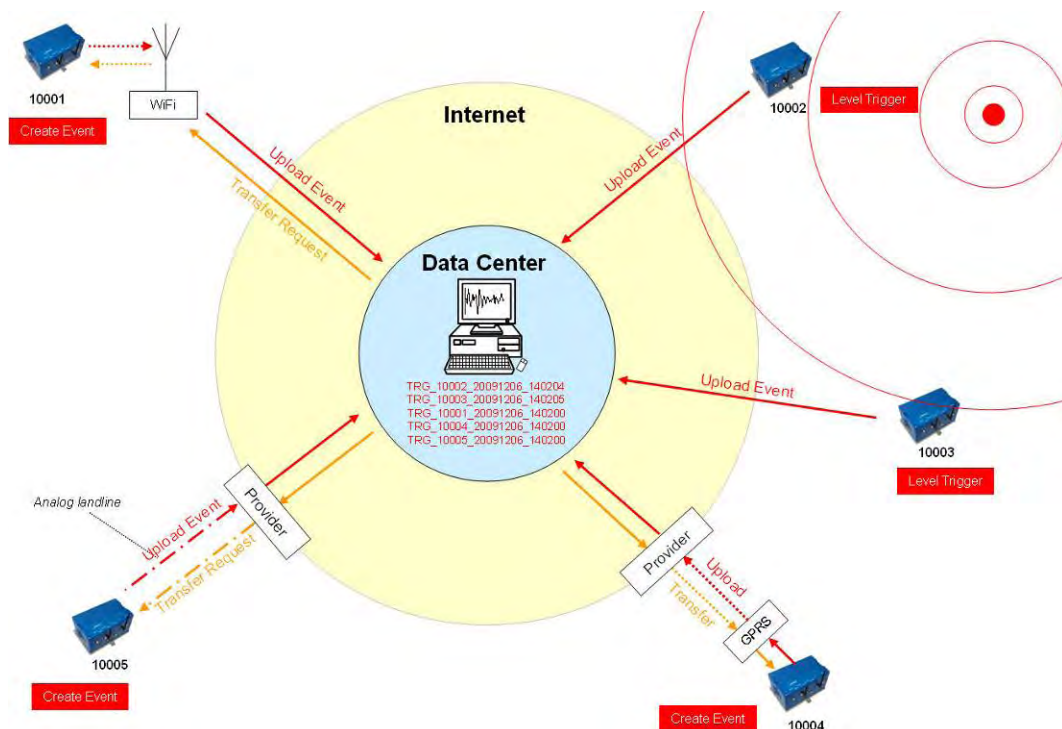

Figure 17. Behaviour on Events: Upload of extracted events
- All instruments will download the request during the next time checking the server (see Figure 17).
- The extracted event file will be uploaded to the data server (see Figure 17)